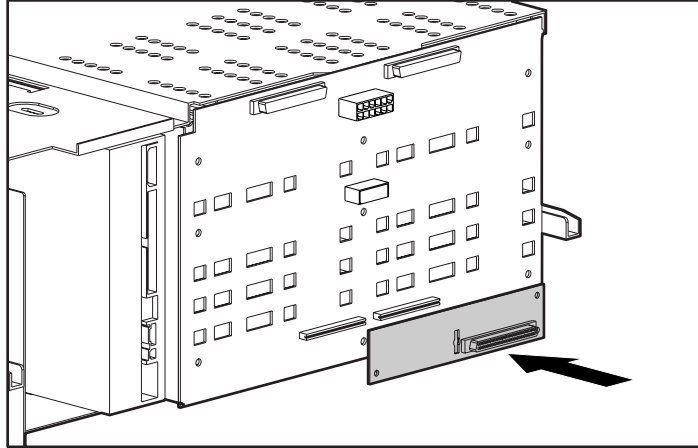

Figure 4-15. Installing the Duplex Enable Board
5. Pull out the latch at the back of the drive cage (shown in Figure 4-15) and pull out the drive cage 2 to 3 inches to allow better access to cables.